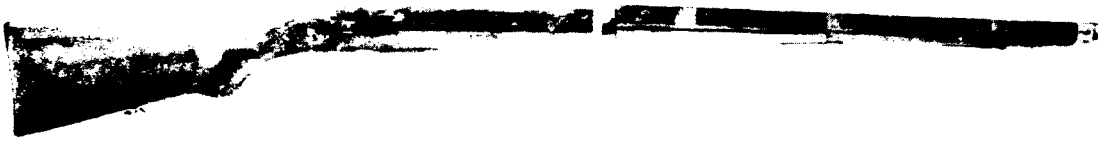

FIGURE 58. TWO-PIECE STOCK OF THE SEMIAUTOMATIC RIFLE M1938.
c. It has a two-piece stock (fig. 58) and two stock bands.